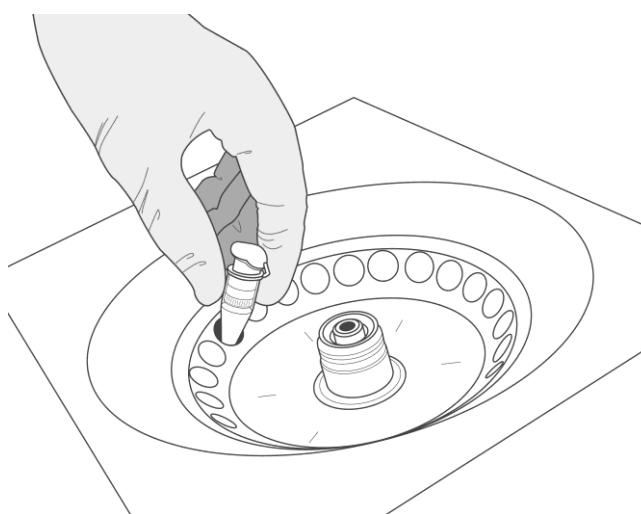

Figure 2
9. Place the DNApure Column into the centrifuge and align the cap strap toward the centre of the rotor as indicate in the Figure 2. Centrifuge for 20 minutes at $500 \times g$.